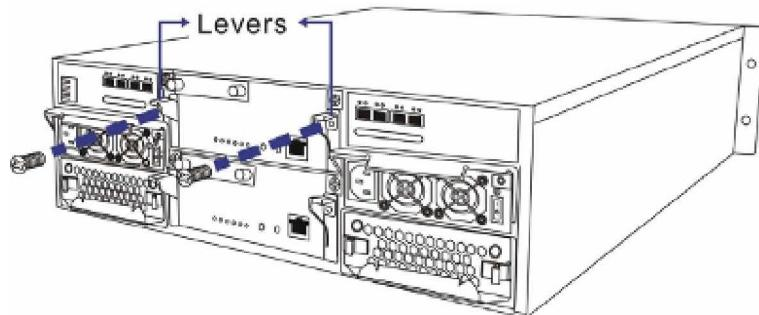

Figure 5-1: Removing the Controller Module Screws
Step 2. Remove the screws on the levers at the back of the controller module. (See *Figure 5-1*)